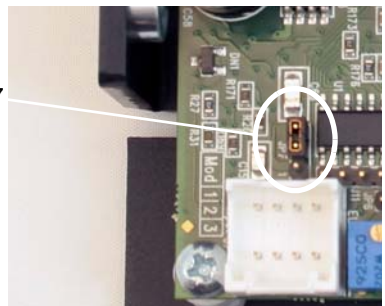

Fig. 3.18 Setting the Volts/Degree Scaling Factor
- 1) Identify JP7 as shown in Fig. 3.18.